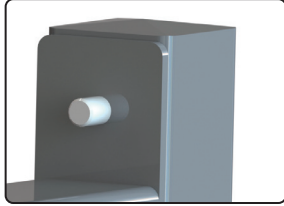
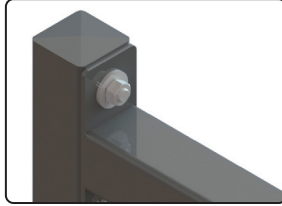

Figure 3 - Open Ended Bolt
Figure 4 - Installed Upper Beam
Washers and M10 Hex Nuts to mount the beam marked "UPPER" to each Base and Post assembly. See Figure 4. NOTE: If installing an Extension Rack, install the bolts on the exterior vertical post from inside the post out, and do not tighten down the bolts. Tighten the nuts by hand to keep the post stable. See Figure 3.
7. Observe the posts. Labels marked "ALL TANKLESS WATER HEATERS", "80 – 140kBTU APPLIANCES", and "175 – 199kBTU APPLIANCES" cover the upper lower beam mounting holes. Remove the label that corresponds to the appliance that will be mounted. Then use a 17mm Ratchet or Socket Driver and wrench and the four(4) M10 Hex Bolts with included M10 Washers and M10 Hex Nuts to mount the beam marked "LOWER" to each base and post assembly. NOTE: Ensure the lower beam is mounted in the proper location for the appliance to be installed to the rack. Failure to do so will result in wasted time. NOTE: If installing an Extension Rack, install the bolts on the exterior vertical post from inside the post out, and do not tighten down the bolts. Tighten the nuts by hand to keep the post stable. See Figure 3.